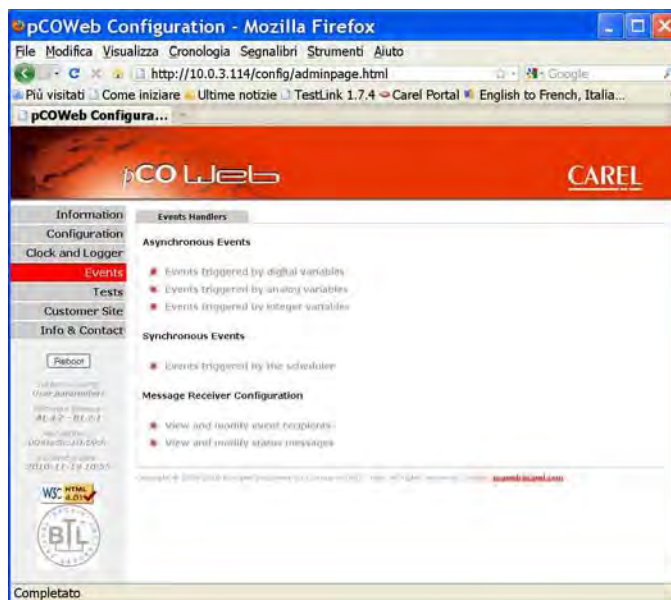

Figure 4.n – Notification events page
- From the *pCOWeb* main page (see Figure 9.b on page 41) open the “Events” page (click point 1 in Figure 4.n).
- Open the window for setting the recipients and the attached files (click point 2 in Figure 4.n).
The window is divided vertically into three areas (Figure 4.o on page 24, Figure 4.p on page 24 and Figure 4.q on page 24). Each has a confirmation button that is only valid for the corresponding area.